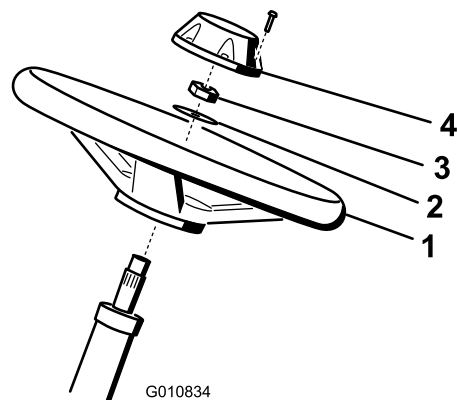

Figure 4
1. Slide the steering wheel onto the steering shaft (Figure 4).
2. Slide the washer onto the steering shaft (Figure 4).
- Secure the steering wheel to the shaft with a locknut and tighten it to 27 to 35 N-m (20 to 26 ft-lb) (Figure 4).
- Install the cap to the steering wheel and secure it with 6 bolts (Figure 4).